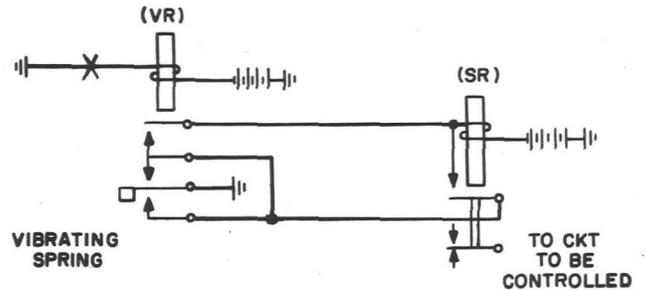

Fig. III-23 - Vibrating Reed Relay Circuit Schematic
This relay is used in conjunction with an auxiliary switching relay which is made slow acting by means of a copper sleeve over the core. This arrangement is shown in Fig. III-23. On operation, the vibrating reed (VR) relay operates quickly (about 25 milliseconds) followed by the slow releasing (SR) relay. When the (VR) relay is released by opening the control circuit, the weighted spring vibrates alternately closing ground to the front and back contact springs, sending pulses to the slow releasing relay and holding it operated. When the vibrations dampen to a point where the amplitude is too small to close the contacts, the armature circuit stands open and the slow releasing relay releases.
The relay is equipped with a set of four springs as shown in Fig. III-23. The contacts are palladium with a contact load rating of 150 watts (maximum one ampere). All inductive loads should have contact protection.